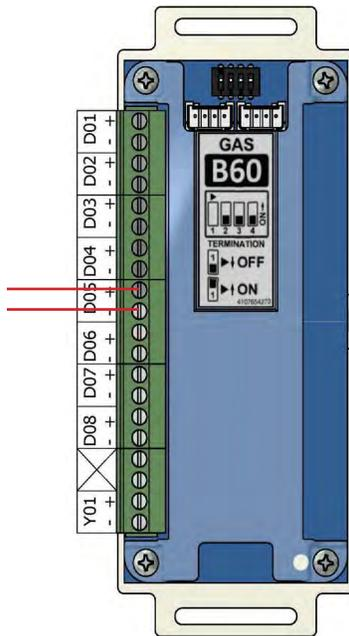

Figure 23: B60 Board Wire Routing
2. Route each pair of sensor wires as shown (Figure 23) to appropriate terminals.